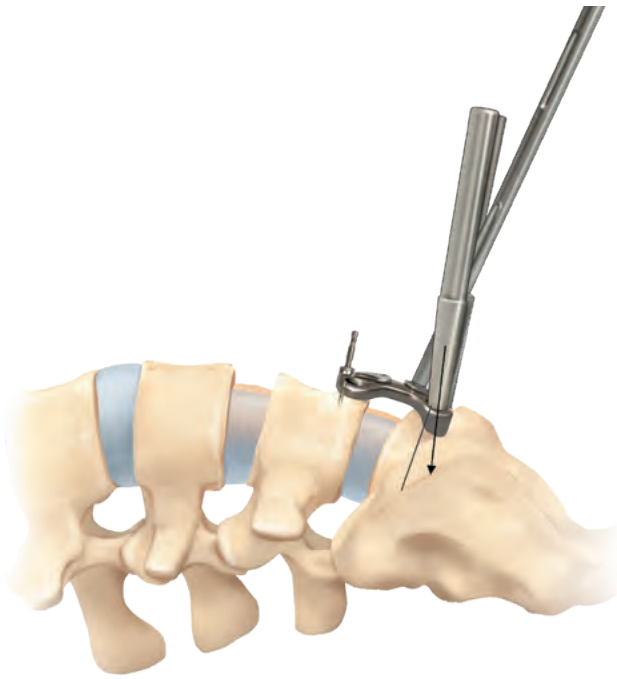

Figure 15:
- The angle of this tube places screws in a 6° trajectory away from the vertebral endplates (Figure 15).